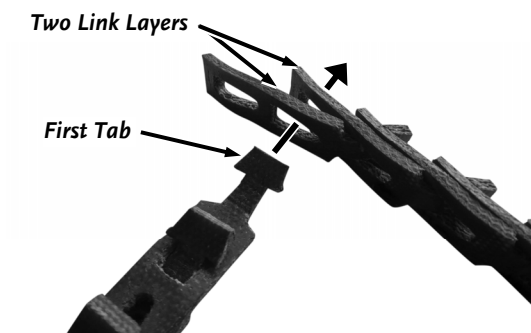

Figure 24
2. Twist the Tab end sideways and insert it through the two Slots until it comes out the other side (**Figure 24**).